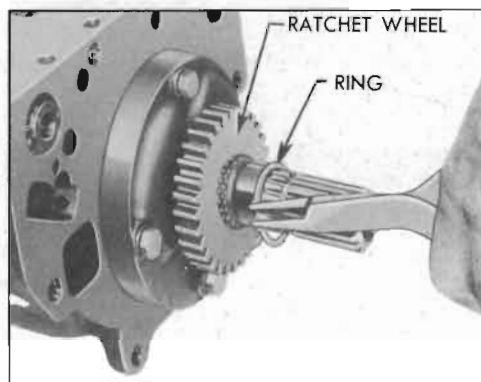

Figure 4-88—Removing Ratchet Wheel Retaining Ring
4. Using snap ring pliers, remove ratchet wheel outer retaining ring, slide wheel from output shaft, and remove inner retaining ring. See figure 4-88.